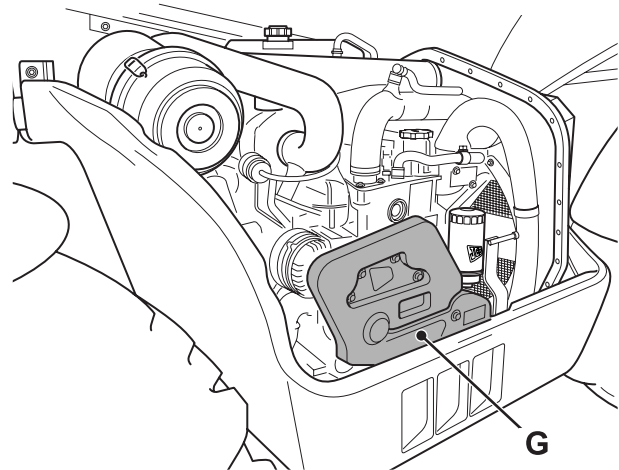

Fig 39.
- 2 Remove the drive belt guard G. ⇒ Fig 39. \(3-1-61\).